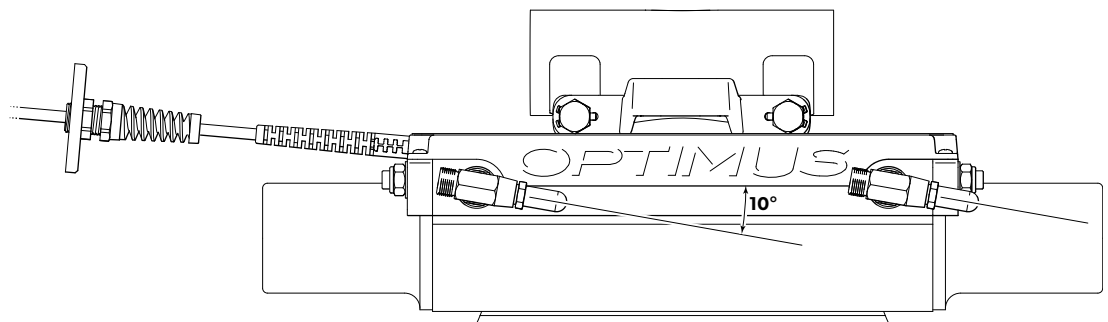

Figure 4.
13. Position fitting orientation to be within $\pm 10^\circ$ from horizontal by turning it counter-clockwise to a maximum of 1 full turn as shown in figure 4.
3. After successfully completing system calibration, bend the two protruding tabs on the tab lock washers (item 2) around so they are fully engaged against M10 (or M8 for Gen 1–4 users) bolt head. Final state of bent tab lock washers can be seen in figure 4.